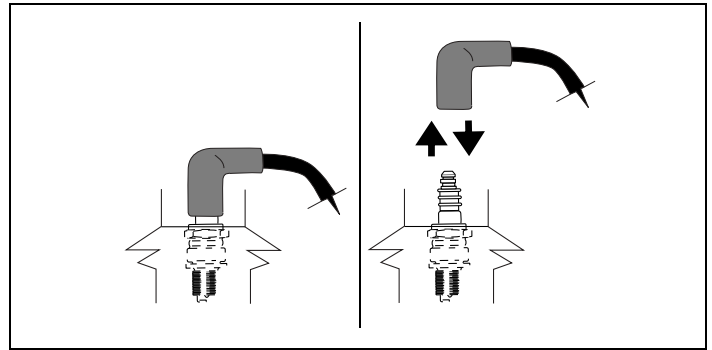

Figure 16. Disconnecting/Connecting Spark Plug
- Carefully disconnect spark plug wire and keep it away from spark plug. See Figures 16 and 17.